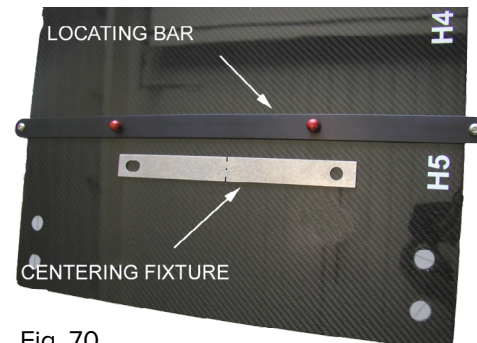

Fig. 70
1. Install the Locating Bar on the CT Overlay and then set the Centering Fixture Bar on the Locating Bar at the head or foot end of the CT Overlay (Fig. 70).